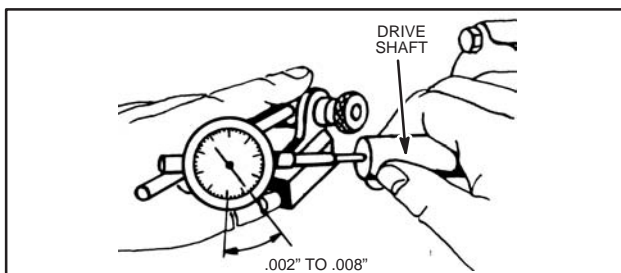

Fig. 123
- Check end play of drive shaft with indicator as shown in Fig. 123. End play should be .002"-.008", Table No. 9.